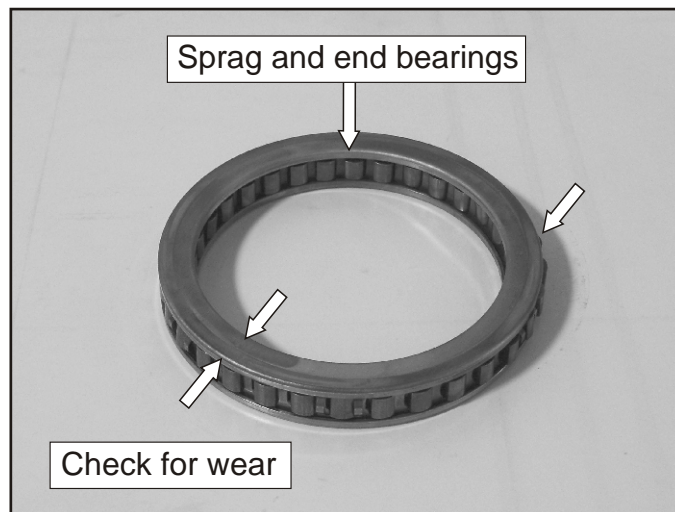

Figure 150
96. Inspect the end bearings for wear as shown in Figure 150. Replace as necessary.